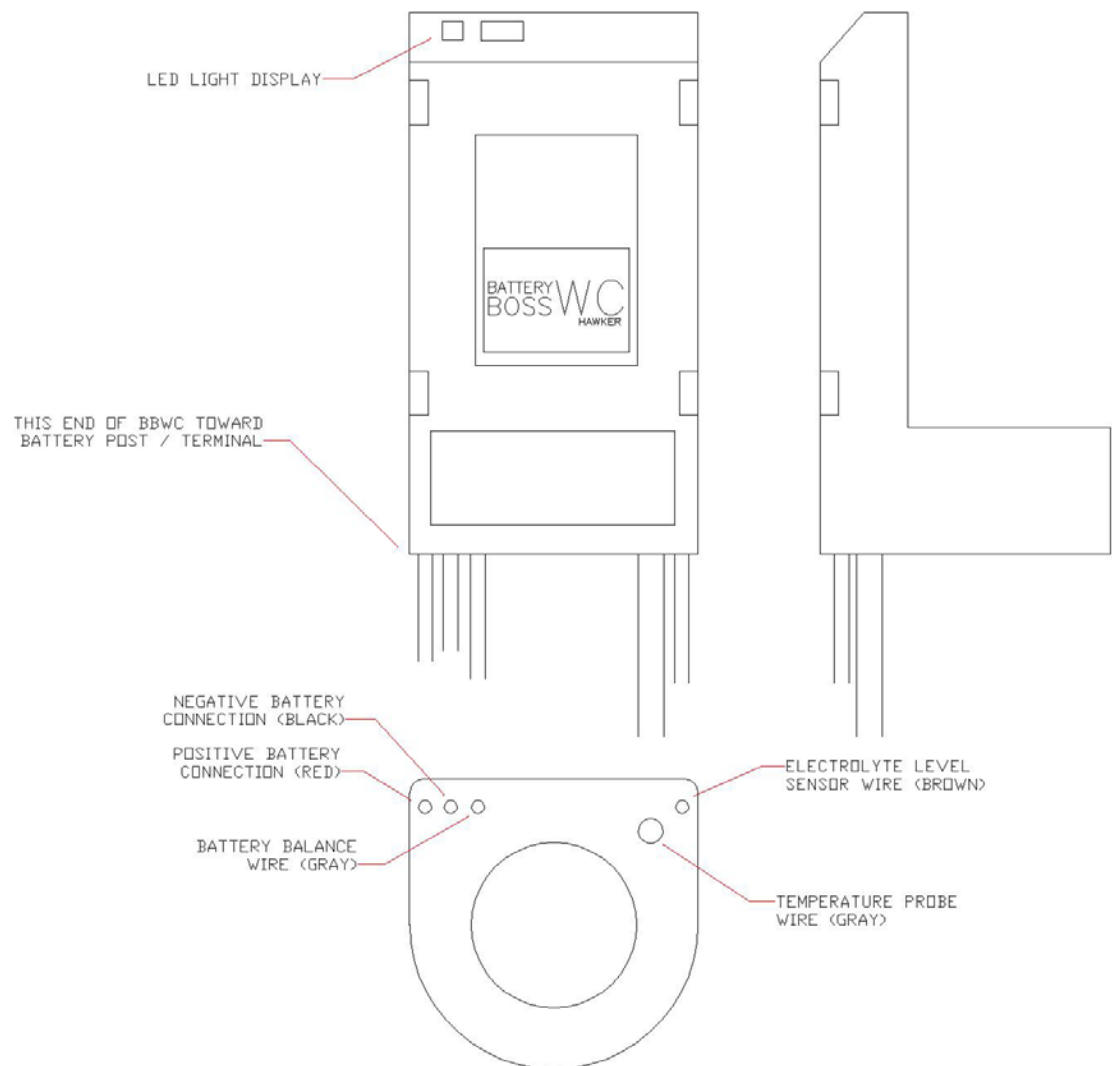

FIG.4
- 3) Slide the cable through the current sensor on the BatteryBoss WC (BBWC). **PUT THE BBWC ON THE CABLE SO THE BBWC WIRES FACE TOWARD THE BATTERY POST AND THE BBWC LED'S FACE AWAY FROM THE BATTERY POST.** (see fig 4)
- 9) Route the battery balance wire, the gray (see fig. 4) wire next to the Pos. and Neg. wires on the BBWC to the negative terminal of the battery's middle inter-cell connector, where the hole was drilled in step 6 above. Trim the wire as required, strip 1/4", and crimp on the supplied ring terminal. Connect the ring terminal with the supplied #8 sheet metal screw.
- 11) Insert the temperature sensor probe (the larger Gray wire with the metallic rod on the end (See Fig. 4) at a cell intersection close to the middle of the battery. The probe should be inserted all the way to the black heat shrink. **DO NOT CUT THE TEMPERATURE PROBE, DOING SO WILL PERMANENTLY DAMAGE THE PROBE AND THE ENTIRE BBWC WILL HAVE TO BE REPLACED.**